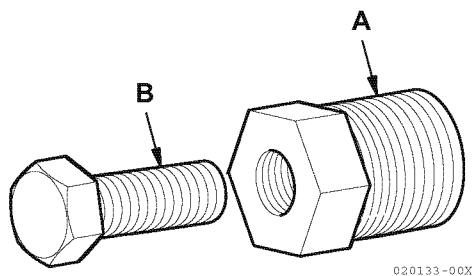

Figure 9
2. Install the puller (A, **Figure 9**) in the impeller.
3. Turn the jack screw (B, **Figure 9**) clockwise to remove the impeller from the pump body.